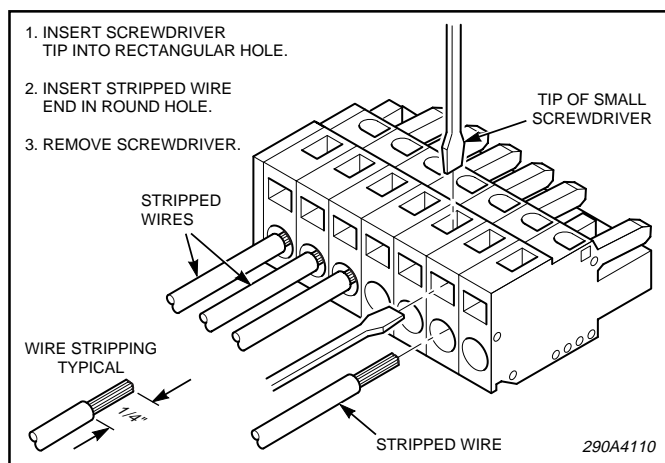

Figure 3.
d. Connect the 18-gauge red (IGN) and green (CASE GROUND) wires to the connector as shown in figure 3.
To avoid damage and ensure proper operation, the wires **MUST** be installed in the seven-position connector as shown in figure 3.